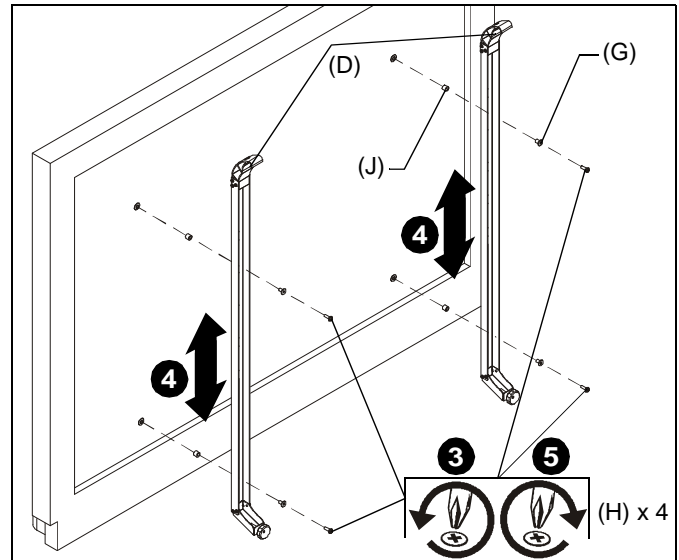

Figure 8
3. Loosen four Phillips head screws on back of white board. (See Figure 8)
4. Adjust white board up or down, as required. (See Figure 8)
5. Tighten four Phillips head screws (H) into four isolation washers (G) and spacers (J) to fasten white board to upright assembly (D). (See Figure 8)